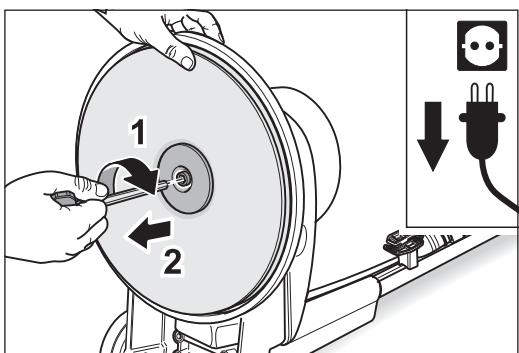

Fig. 18 Turn the screw for releasing the disc **in a clockwise direction** (it has a LEFT-HANDED THREAD)!
- 5 To release the paper retaining disc, turn the screw **clockwise** (LEFT-HANDED THREAD) with a hexagonal socket wrench. As you do so, hold the sanding plate steady (Fig. 18).